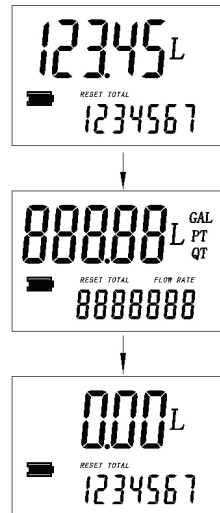

Fig. 4
• Reset the present total (See Fig. 4)